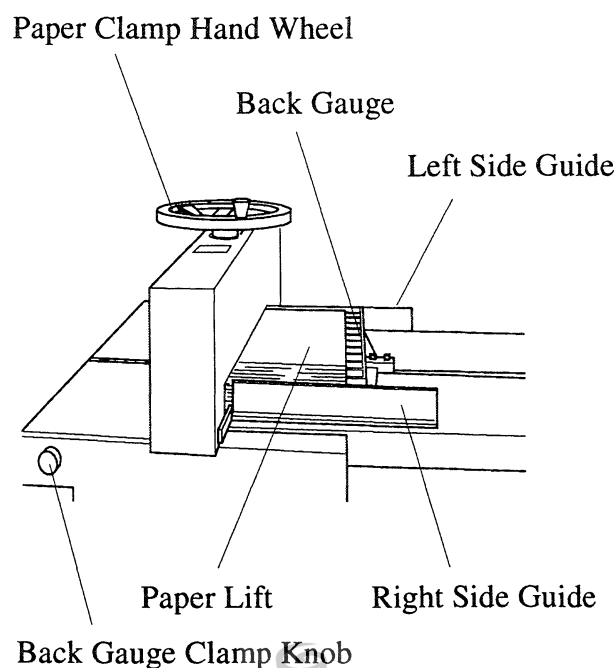

Fig. 2-2
When cutting same size sheets repeatedly, pull back gauge hand crank toward you to release mechanism and turn back gauge clamp knob (Fig.2-2) clockwise.
- Neatly jog a lift of paper against back gauge and left side guide. (Fig. 2-2)
- Clamp lift of paper by turning paper clamp hand wheel (Fig.2-2) clockwise until clamp is firmly securing lift of paper.